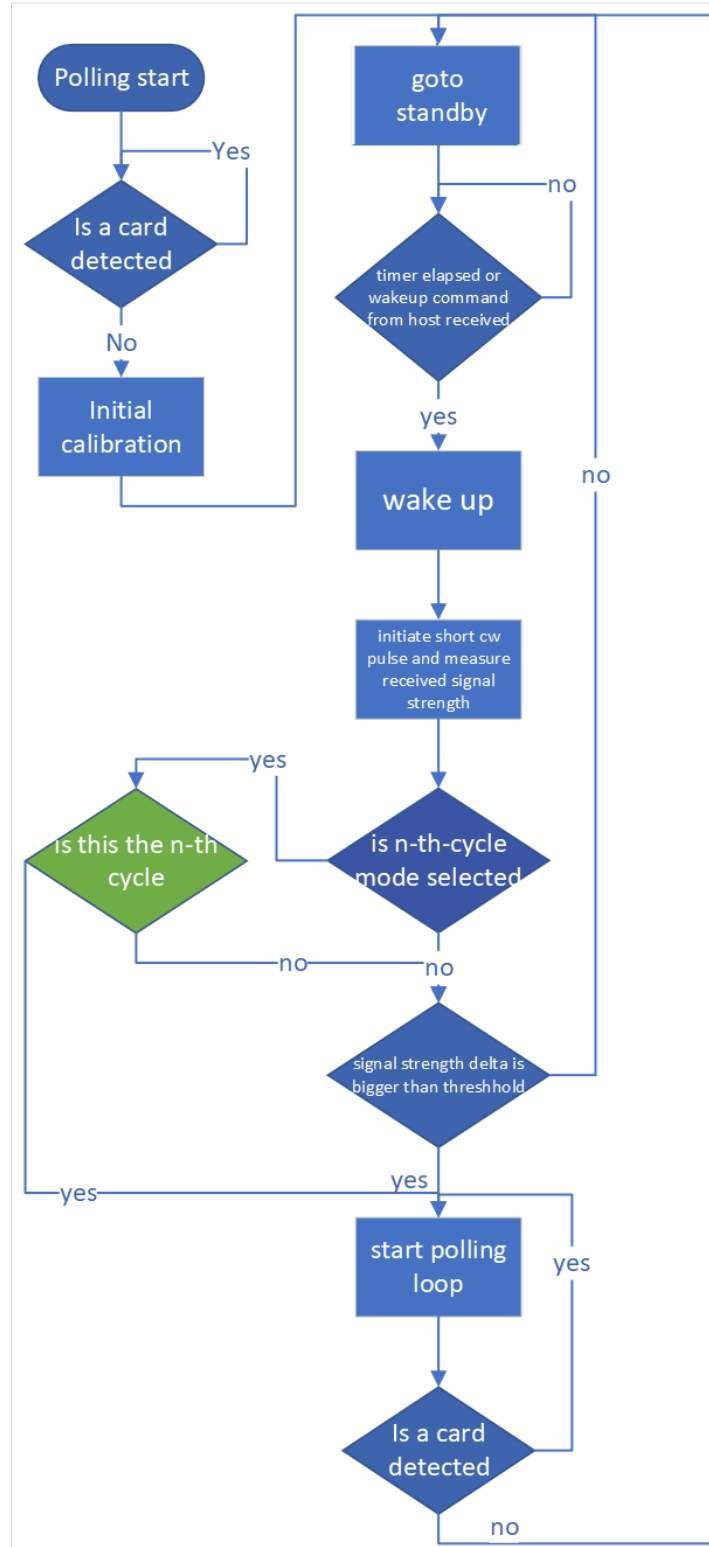

Figure 3. Normal LPCD Behavior Flow Diagram
- Figure 3. Normal LPCD Behavior Flow Diagram4